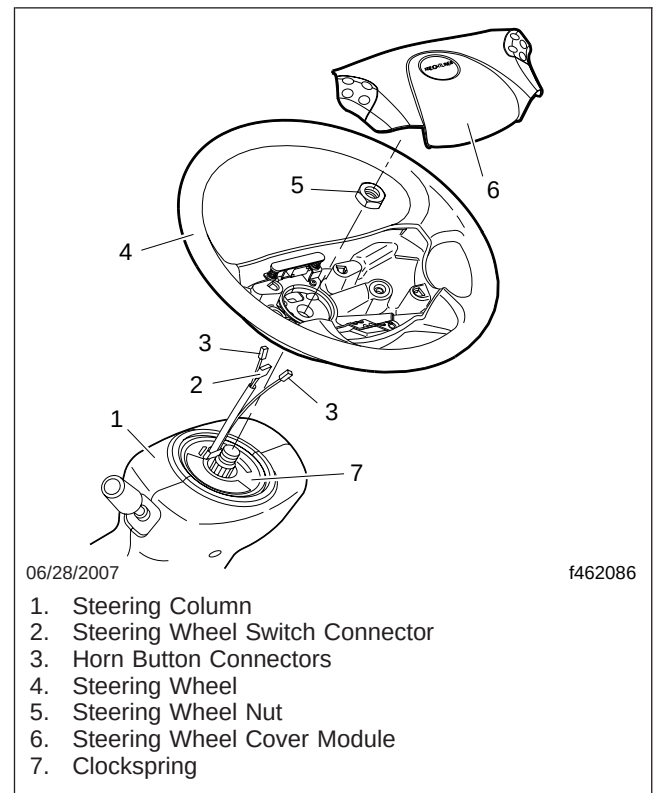

Fig. 2, Steering Wheel Cover Module and Connectors, No Airbag
1. Thread the switch and horn wires through the hole above the center of the steering wheel, and set the steering wheel on the steering column; see Fig. 2.